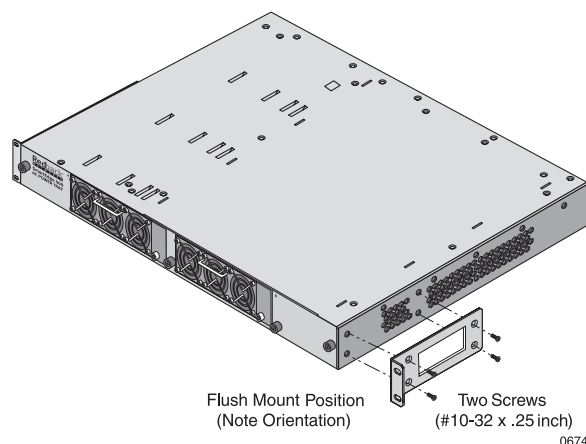
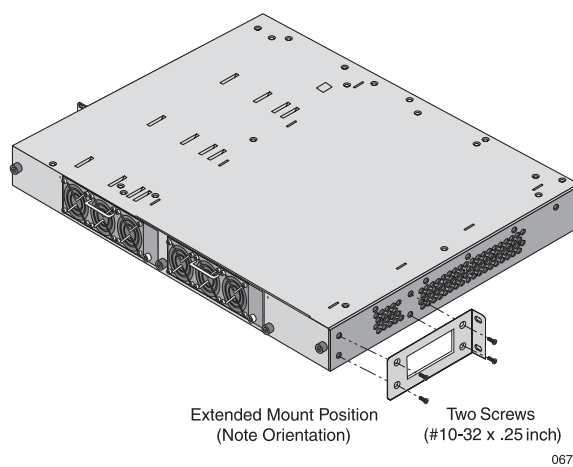

Figure 6 *Installing AC Power Tray Brackets for Flush Mount Position*
Figure 7 *Installing AC Power Tray Brackets for Extended Mount Position*
1. Position a mounting bracket against one side of the AC power tray, lining up the screw holes in the bracket with the screw holes in the side of the AC power tray. Ensure that the bracket position corresponds to the position of the chassis mounting brackets. Figure 6 and Figure 7 illustrate the proper orientation for installing the brackets.